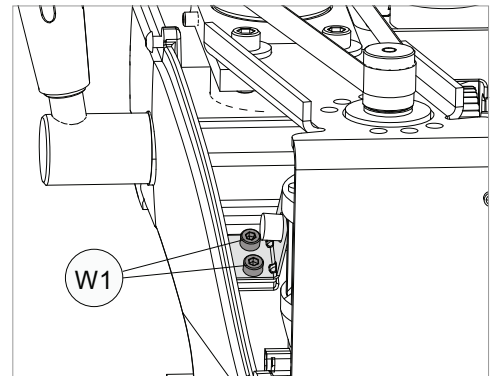
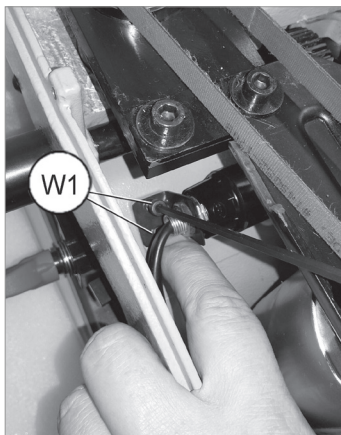

Fig. 41
Fig. 42
- 2) Carefully loosen the two screws (W1) and remove the lamp holder (W) (Fig. 41 - Fig. 42).
- 4) Fit the lamp holder (W) and secure it with the two screws (W1).